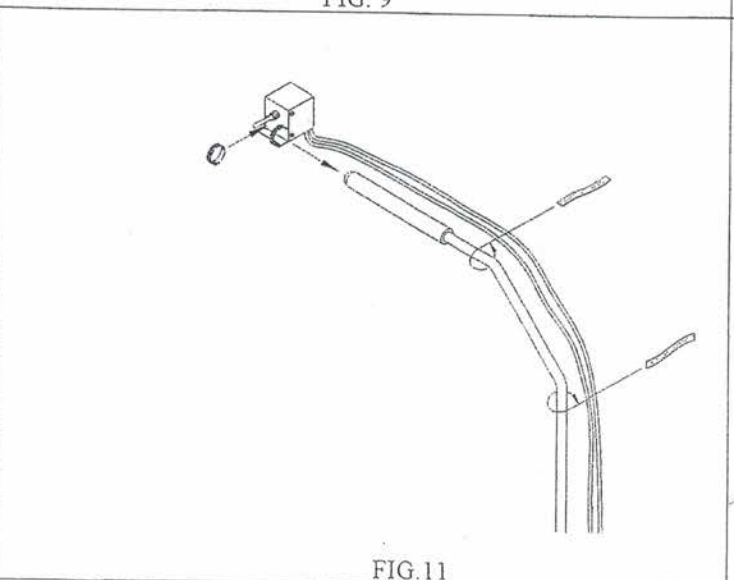

FIG. 11
9. Band clamp switch plate to control arm of tractor on a comfortable operating position. The wiring harness must be run at this time. Using the velcro self stick strips, secure lines down the control arm. When you've reached the bottom of the control arm, choose and appropriate route to the battery and to the cylinder on the aerator and run each line to its destination. **FIG. 11**